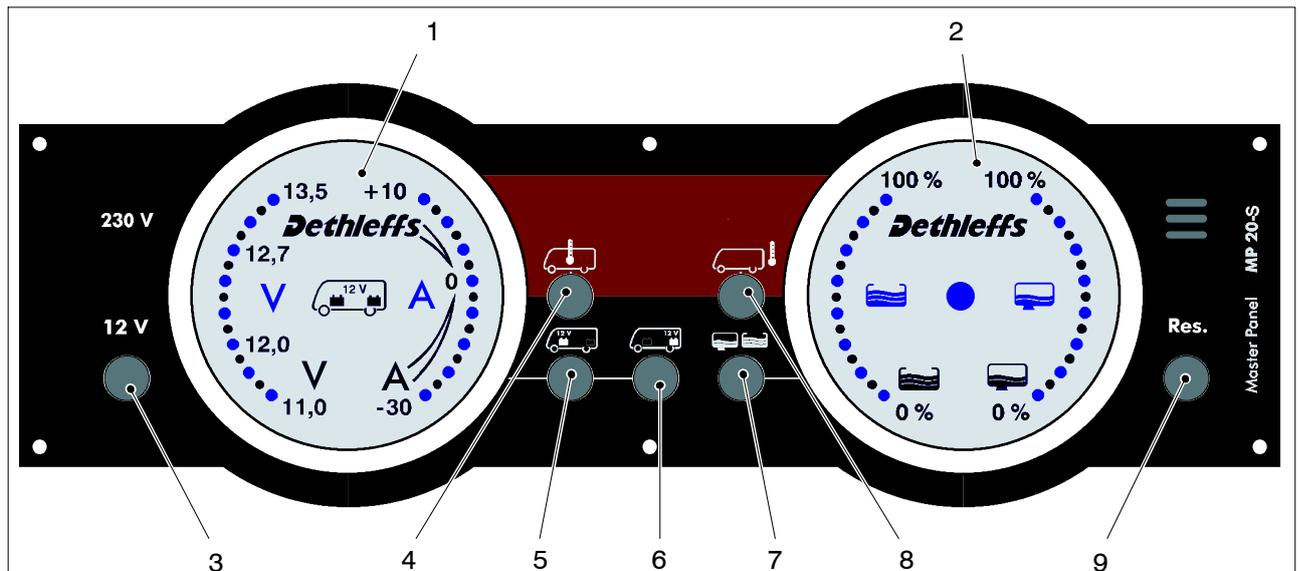

Bild 1 Layout of the MP 20-S display panel
- ▶ Press the "Living Area Battery" button once (underneath the living area battery symbol, Fig 1, Pos. 6).
- ▶ Press the "Vehicle Battery" button once again (underneath the living area battery symbol, Fig 1, Pos. 5). The display is analogous to the living area battery (see Fig. 2):